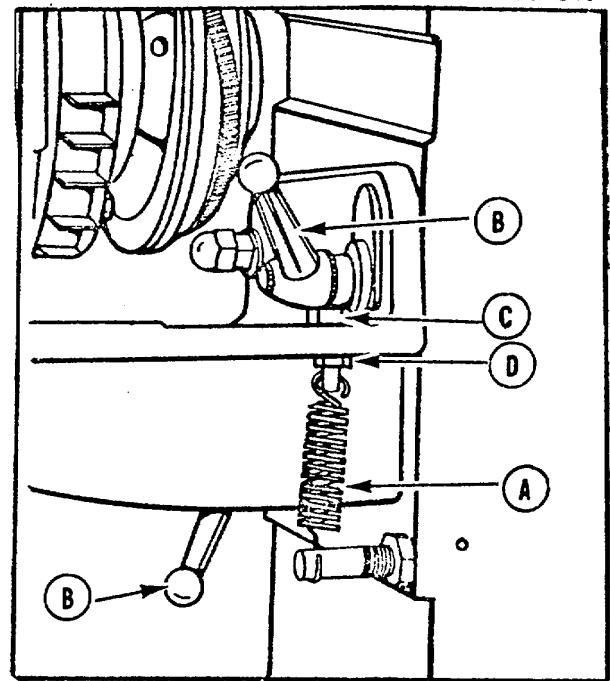

Fig. 15.
The belt tensioning spring (A) Fig. 15, is adjusted at the factory to supply correct belt tension ($5/64$ " deflection with five pounds thumb pressure in center of span) for the motor to countershaft belt. If the belt tensioning spring ever needs to be adjusted to increase or decrease tension of the belt, proceed as follows:
1. Loosen the motor plate clamping levers (13) Fig. 15.
2. To increase tension, loosen nut (D) Fig. 15, and tighten nut (C) until correct tension is obtained.
3. To decrease tension, loosen nut (C) Fig. 15, until correct tension is obtained and tighten nut (D).